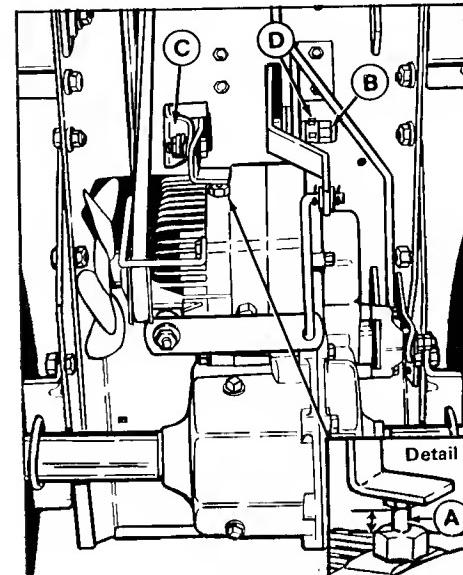

Figure 30. Engagement Lever
If lever (H, figure 8) operates too hard or loose, it can be adjusted. Loosen or tighten the nut (B, figure 30) to loosen or tighten the lever. Some models are equipped with set-screws (D) which must be loosened to adjust the nut.
4. Locate the plunger (A, figure 30) on front of the transmission which is operated by the lever. Check the clearance between the plunger and the fitting as shown in the detail in figure 30. It should be 0.060 inch to 0.125 inch.
5. To adjust, loosen the screws which secure the engagement lever support bracket (C, figure 30) and move bracket to achieve the 0.060 to 0.125 inch dimension, then tighten the screws.